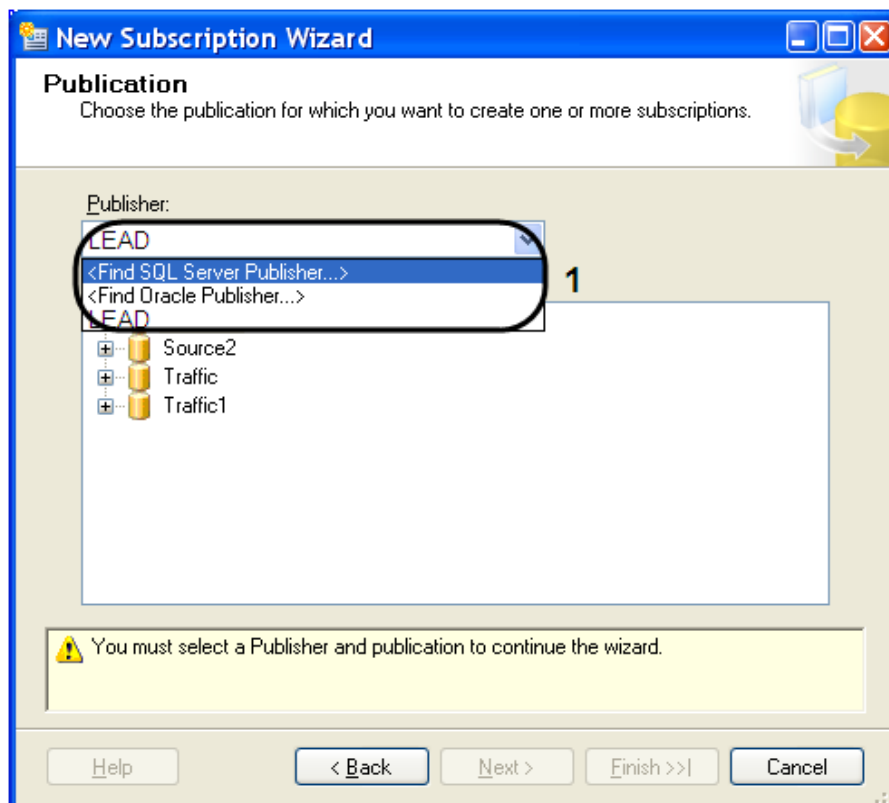

Fig. 9.3-13 Selecting the publishing server
7. Select the publication server from the dropdown list «Publisher» (Fig. 9.3-13, 1).